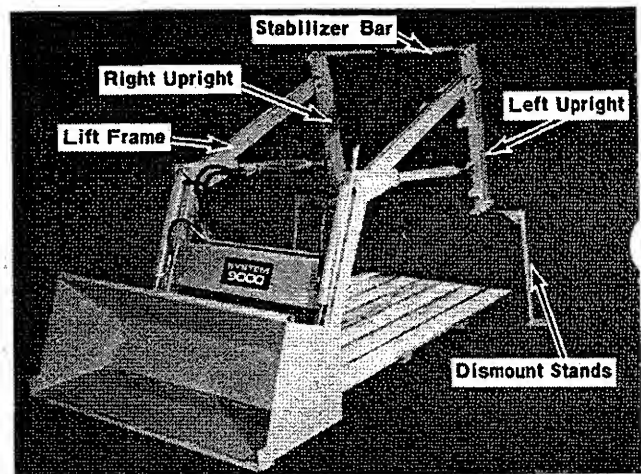

FIGURE 2
Next install the Left and Right Uprights P/N 250932 L & R to the lift frame and install lift frame pins and lock into place with bushing, 3/8" x 3/4" bolt, flat washer (FW) & lockwasher (LW). Attach the two lift cylinders to the uprights with the pins provided, and then install the Stabilizer Bar P/N 24052 with two (2) 3/8" x 1" bolts, LW, FW & nuts. Remove the Under Frame P/N 270950 from the pallet and then insert a dismount stand into each bushing on the front edge of each upright base with the base of the dismount stands towards the front. Then lift the whole assembly up until the unit is resting on the stands, Figure 2, and then remove the pallet from the area.